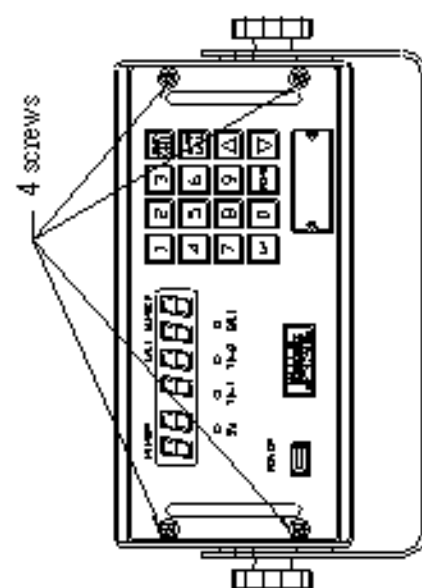

figure-1
Step 2: Taken off 4 screws on the panel. (Figure-1)